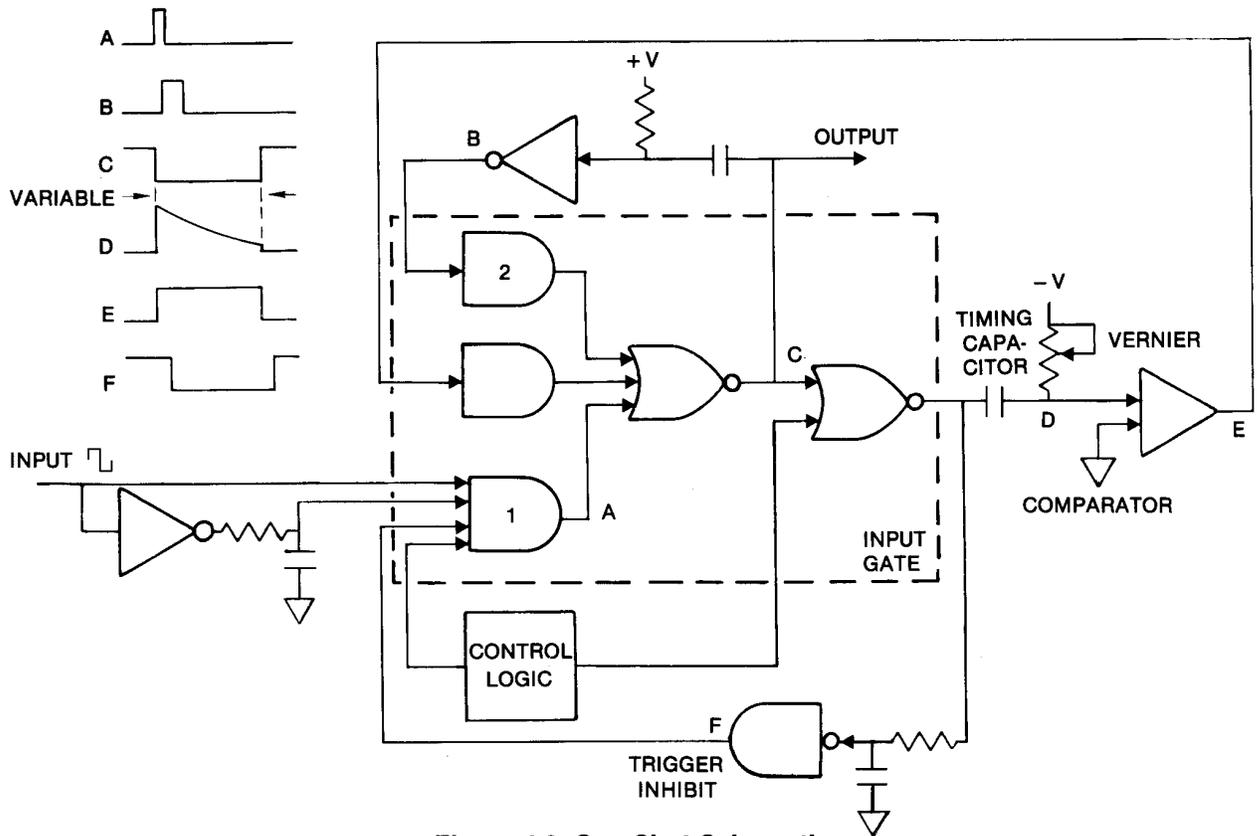

Figure 4-2. One Shot Schematic
same, (figure 4-2) a simplified drawing illustrating one-shot principle of operation is applicable to both one-shots.
Two points can be observed about the control logic for this mode. First, for NOR gates of U4 and U2 to pass any signal, three of the unused inputs need to be at a logic low. Hence, the control logic must cause three of the AND gates feeding one of the NO gates to be low, and must cause the AND gate which will pass the signal to have all inputs high other than the signal input. Tracing from the square switch to the AND gates of U4 and U2 will reveal how this is accomplished. Note that these criteria must be met in the other modes also. Second, the circuitry which generates a one-shot triggering pulse (A) as illustrated in figure 4-2, is not needed when in square mode. Hence, the control logic effectively disables U4 pins 1 and 11 triggering input signal by grounding pin 13 of U4 and disables U2 11 and 12 by placing a +5 volts on U3 pin 5 (thus placing a low on U2 pin 12).
In DLY OFF mode the control logic inhibits the delay one-shot and enables the width one-shot. The delay one-shot is inhibited in the same manner as described for square mode. The width one-shot is enabled by placing a high on U2 pin 10 and placing a low on U3 pin 3. U4 AND gate pins 1 and 11 are enabled by placing a high on U2 pin 10 and placing a low on U3 pin 3. U4 AND gate pins 1 and 11 are enabled which causes a trigger pulse of constant duration from NOR gate pin 8. The negative transition of this pulse is fed to U3 pin 8 and is inverted and delayed before being fed to pin 9 of U3. The resulting output of U3 pin 10 is a smaller pulse width than that observed at pin 8 of U4 and a pulse which is positive. This pulse then triggers the one-shot in a manner as described for figure 4-2. Added to this one-shot are the timing capacitors for greater width variation. Refer to appendix B for voltage values of Q6, Q7 and Q8. Refer to figure 4-3
that has a variable low because of pulse width one-shot. Again this works as described for figure 4-2 with added capacitors to increase the delay pulse. The width one-shot is now set to trigger on the positive transition of the delay pulse. This is done by disabling U2 AND gate pin 5 to process the positive transition from U4 pin 8. The resulting triggering pulse corresponds to pulse (A) of figure 4-2. This trigger pulse will be felt at U2 pin 8 and will trigger the width one-shot. The width pulse will be variable as in DLY OFF. Refer to figure 4-4 for a more complete examination of this mode.